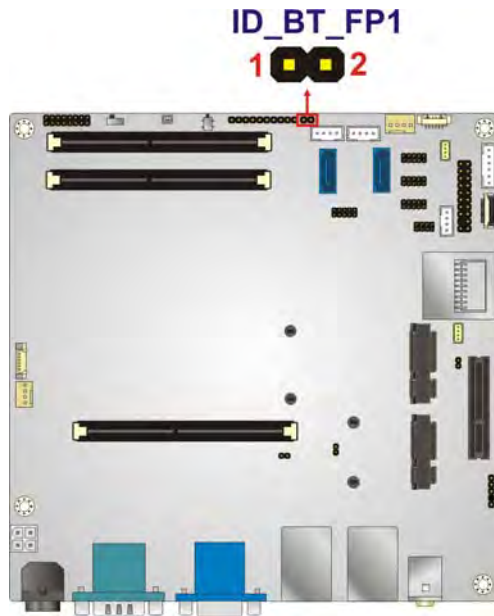

Figure 3-12: IPMI LED Connector Location
- CN Location: See **Figure 3-12**